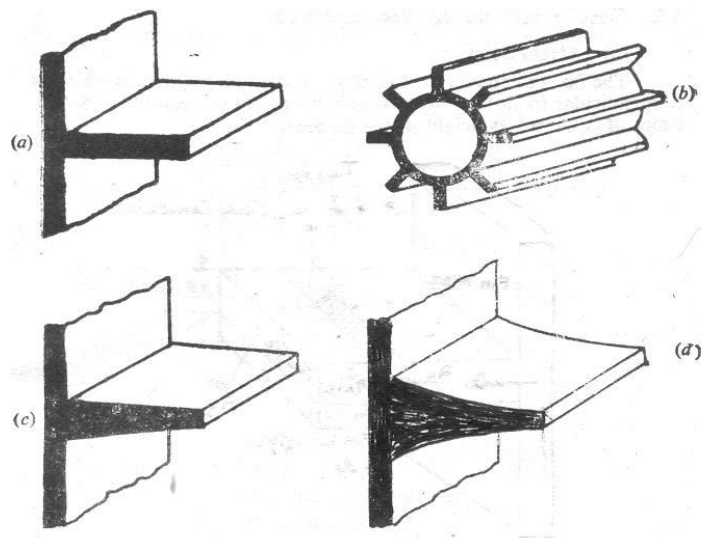

Figure 2
1. Straight Fin: The terms straight fin is applied to the extended surface attached to a wall which is otherwise plane. Figures 2 (a) and (b) are of fins of uniform area whereas Figures (c) and (d) are of fins of non-uniform area.